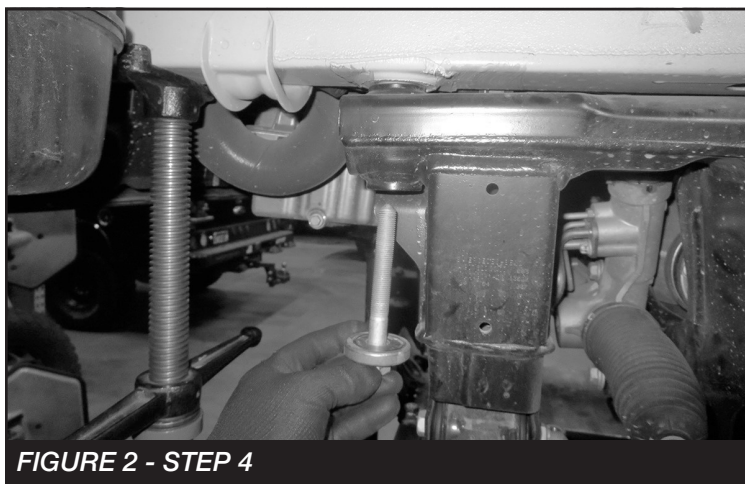

FIGURE 2 - STEP 4
4. Remove the front factory bolt attaching the frame and body together. **SEE FIGURE 2**